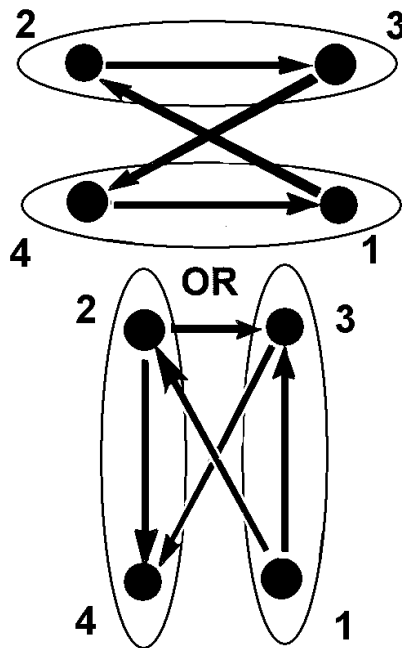

Figure 28 U-Bolt Torque Patterns
14. At this point assemble the spring clamp group and main support member to the axle, align the suspension and tighten assembly. Tighten to specifications in the following sequence: U-bolts (tighten diagonally), (Figure 28) front torque rod nuts, rear torque rod nuts, and the lower shock absorber mounting plate on the transverse beam. Refer to the TORQUE CHART.